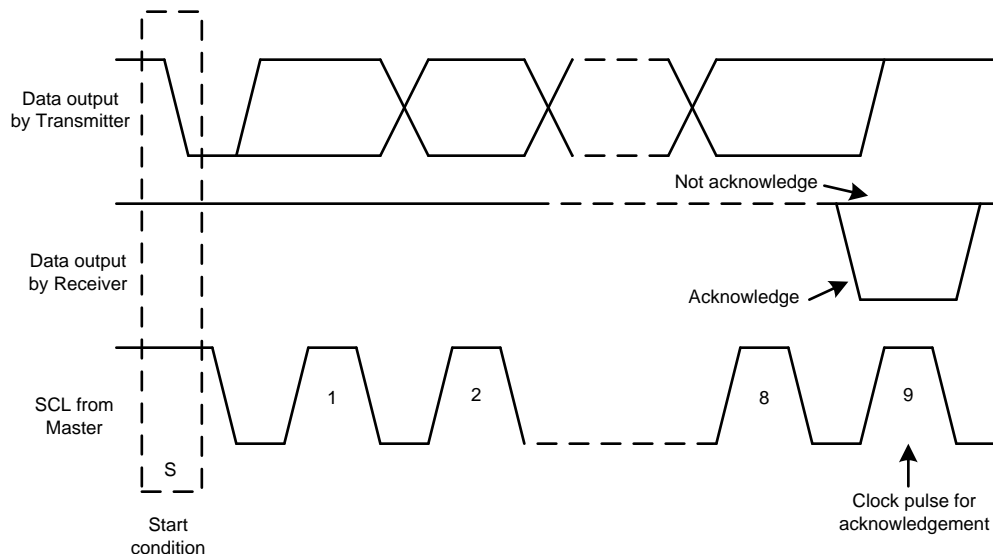
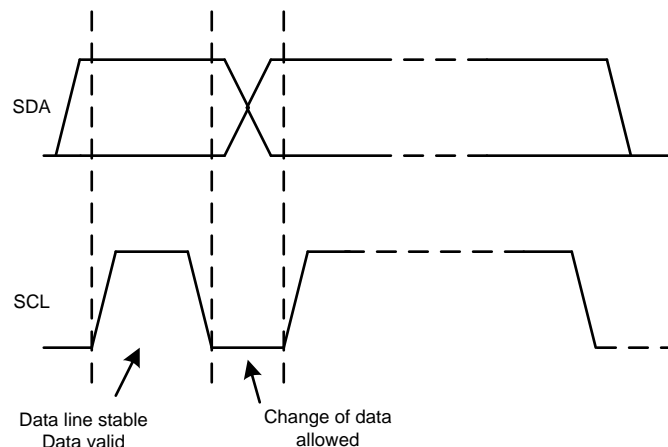

Figure 56. Acknowledge and Not Acknowledge on the I²C™ Bus
Figure 58. Bit Transfer on the I²C™ Bus
Other than specific timing signals, the I²CTM interface works with serial bytes. At the end of each byte, a ninth clock cycle generates and detects an acknowledge signal. Acknowledge is when the SDA line is pulled low during the high period of the ninth clock cycle. A not-acknowledge is when the SDA line is left high during the high period of the ninth clock cycle as shown in Figure 56.
2. The master then generates the SCL pulses, and transmits the 7-bit address and the read/write direction bit (R/W) on the SDA line. During all transmissions, the master ensures that data is valid. A valid data condition requires the SDA line to be stable during the entire high period of the clock pulse, as shown in Figure 58. All devices recognize the address sent by the master and compare it to their internal fixed addresses. Only the slave device with a matching address generates an acknowledge by pulling the SDA line low during the entire high period of the 9th SCL cycle, as shown in Figure 56 by pulling the SDA line low during the entire high period of the 9th SCL cycle. Upon detecting this acknowledge, the master knows the communication link with a slave has been established.